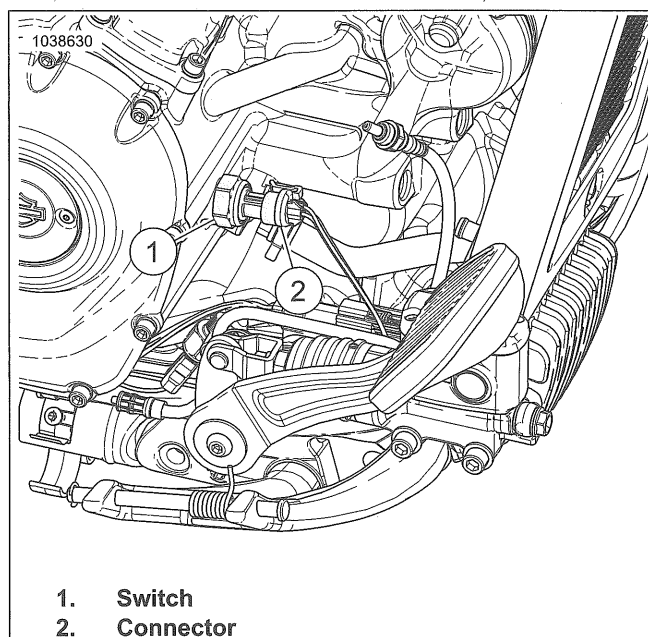

Figure 7-39. Oil Pressure Switch
1. See Figure 7-39. Disconnect connector (2).
2. Remove switch (1).
1. See Figure 7-39. Install switch (1). Tighten.